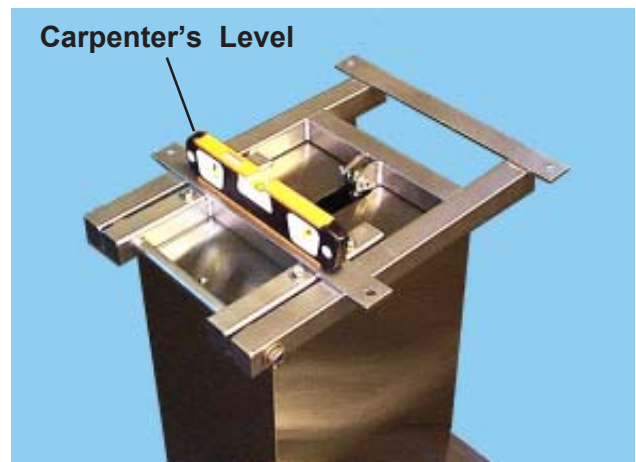

Figure 3. Level Cross-wise on Base Bracket
4. Place the level cross-wise on the base bracket and check the level of the base front-to-rear (Figure 3).